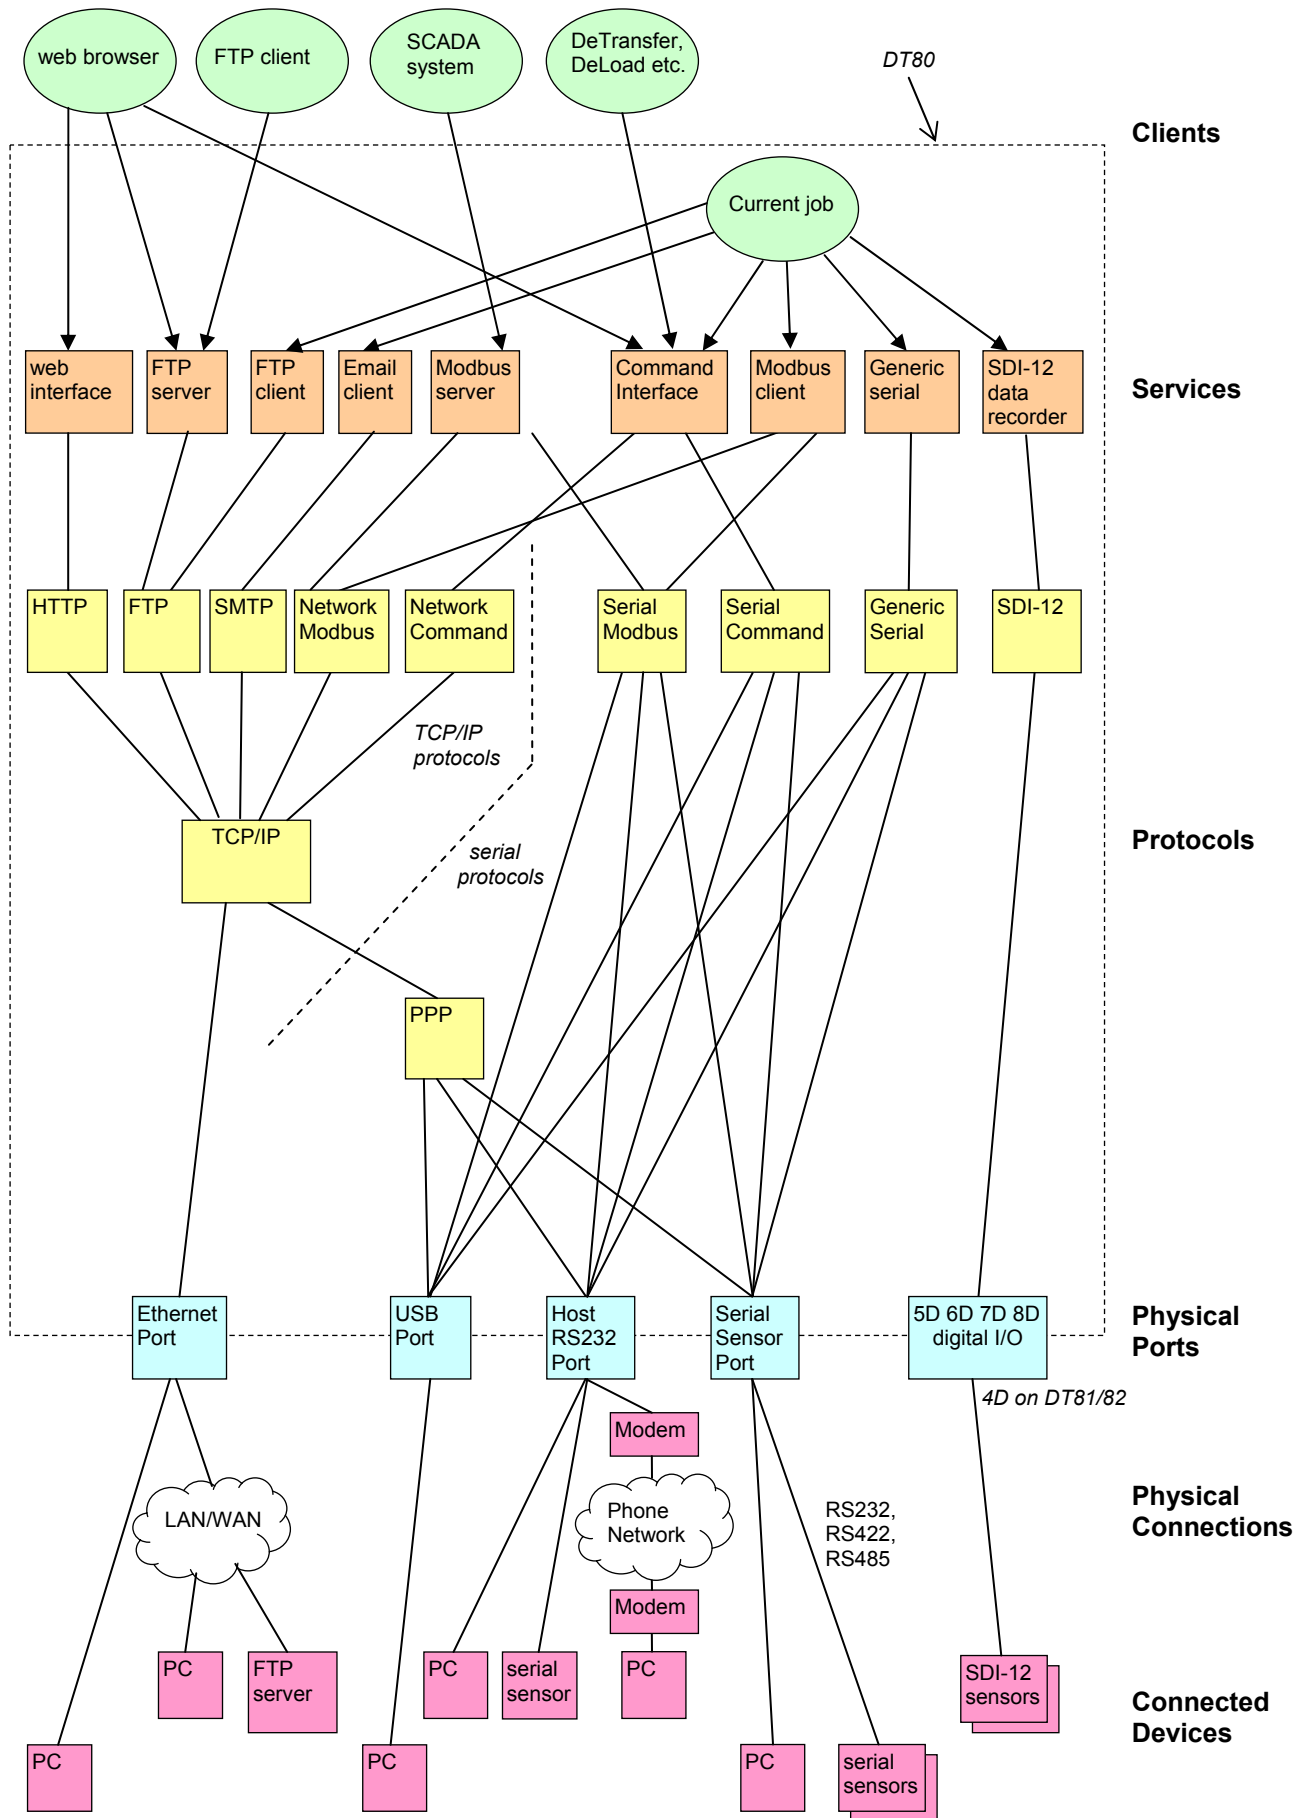
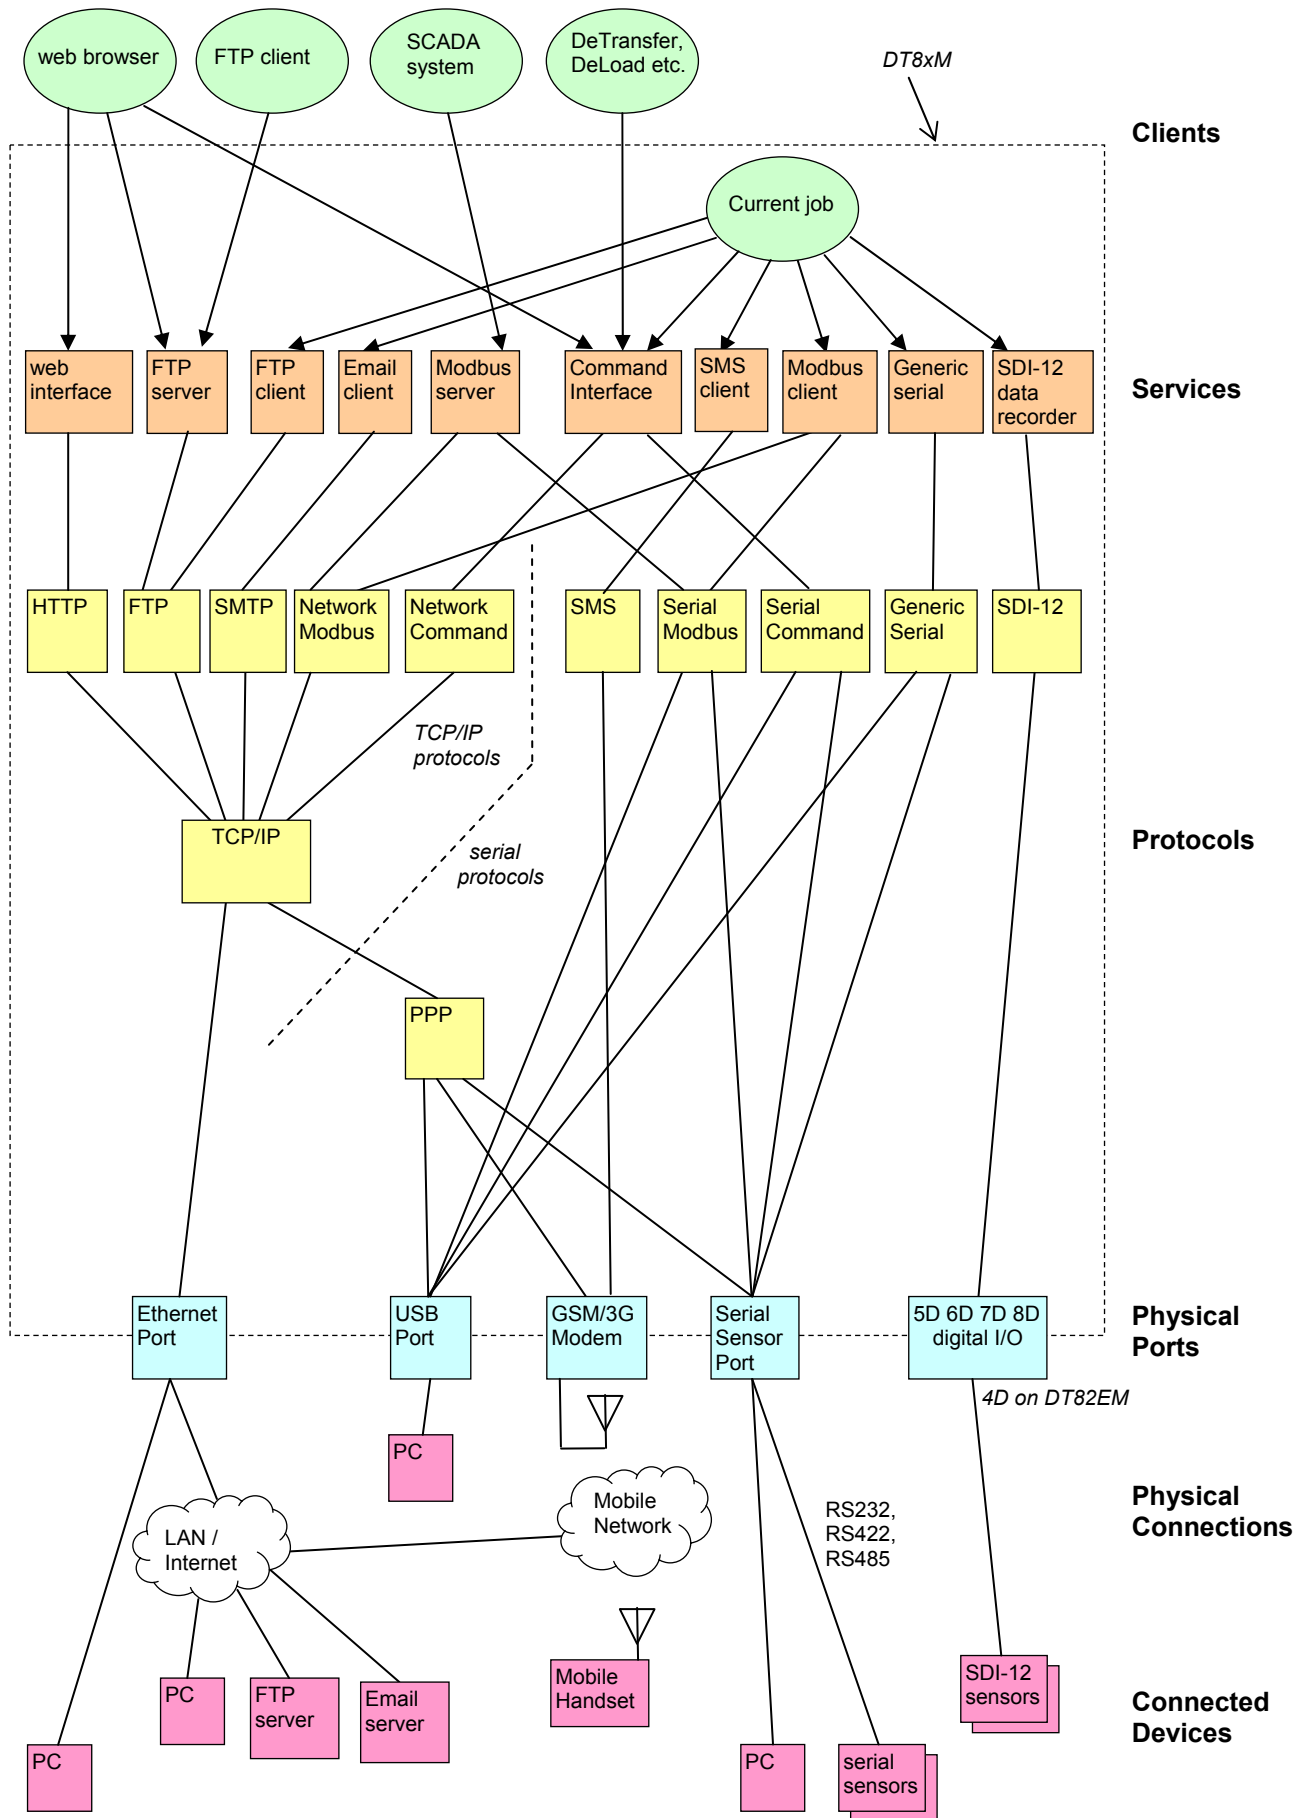

Figure 61: DT80 communications options
Figure 62: DT80 communications options (integrated modem models)
This is illustrated in *Figure 61* (P177) for standard models, and *Figure 62* (P178) for integrated modem models. These diagrams are described further below. Later sections will explain common usage scenarios in more detail.
*Figure 61* (P177) and *Figure 62* (P178) show the various communications options available on the *DT80*. The diagram may appear slightly intimidating; the following notes may help in deciphering what it is trying to indicate.
As shown in *Figure 61* (P177), the command interface can operate over a serial link ("serial command" protocol), and/or over a TCP/IP network ("network command" protocol). In other words, you can send commands from a computer to the *DT80* via: